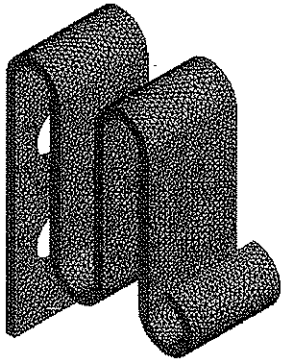

Figure 9-44 Mesh generated with the *On: Proximity* option chosen
- 12. Choose the **Generate Mesh** tool from the **Mesh** drop-down in the **Mesh** contextual toolbar; the mesh is generated, as shown in Figure 9-44.